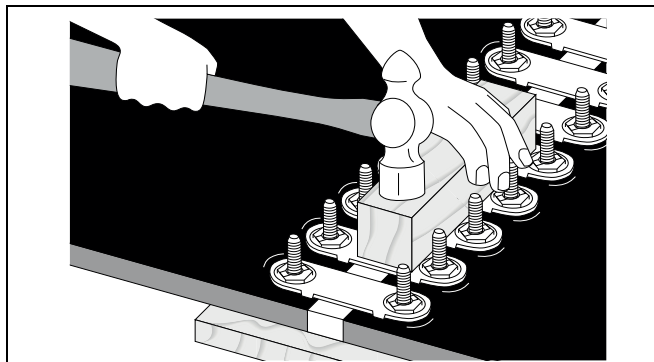

Figure 4N
11. Hammer plates in belt with metal or hard wood block in between bolts. Then retighten nuts. *(See Figure 4N.)*